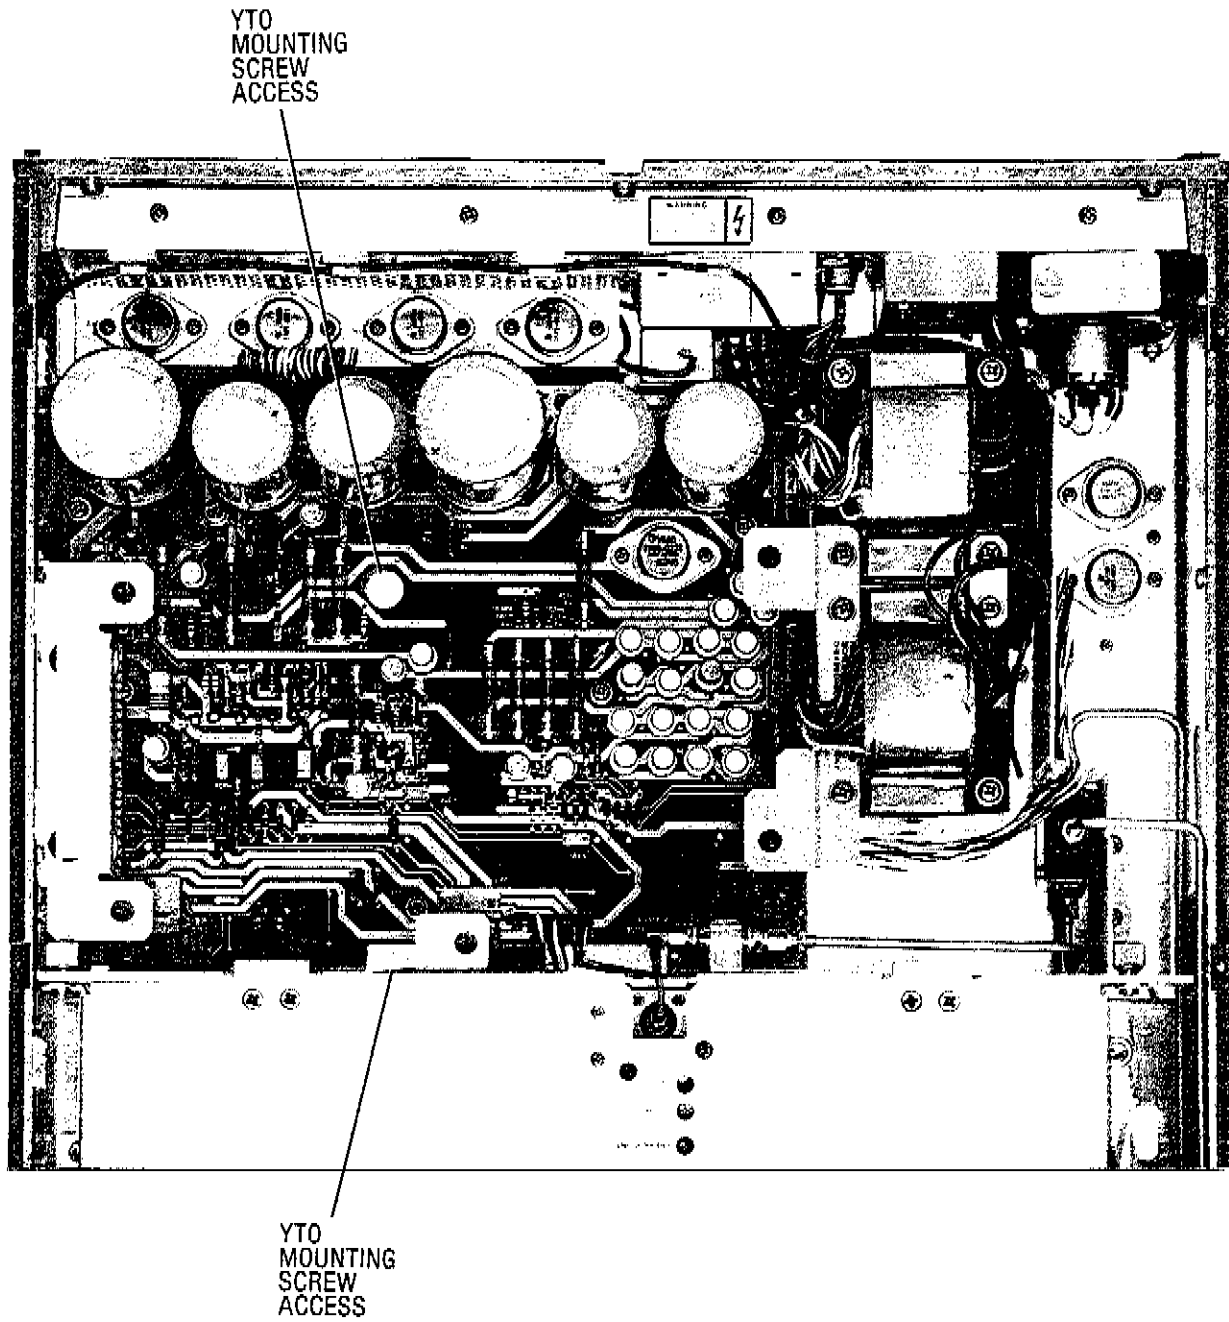

Figure 8-306. Location of YTO Mounting Screws
- c. Remove the two screws securing the YTO Phase Detector. (Refer to Figure 8-306) One screw is accessible through a hole in the A5 Power Supply Board A5A10. The other screw is accessible through an opening between the A5 Card Cage and the A5 Power Supply Board.